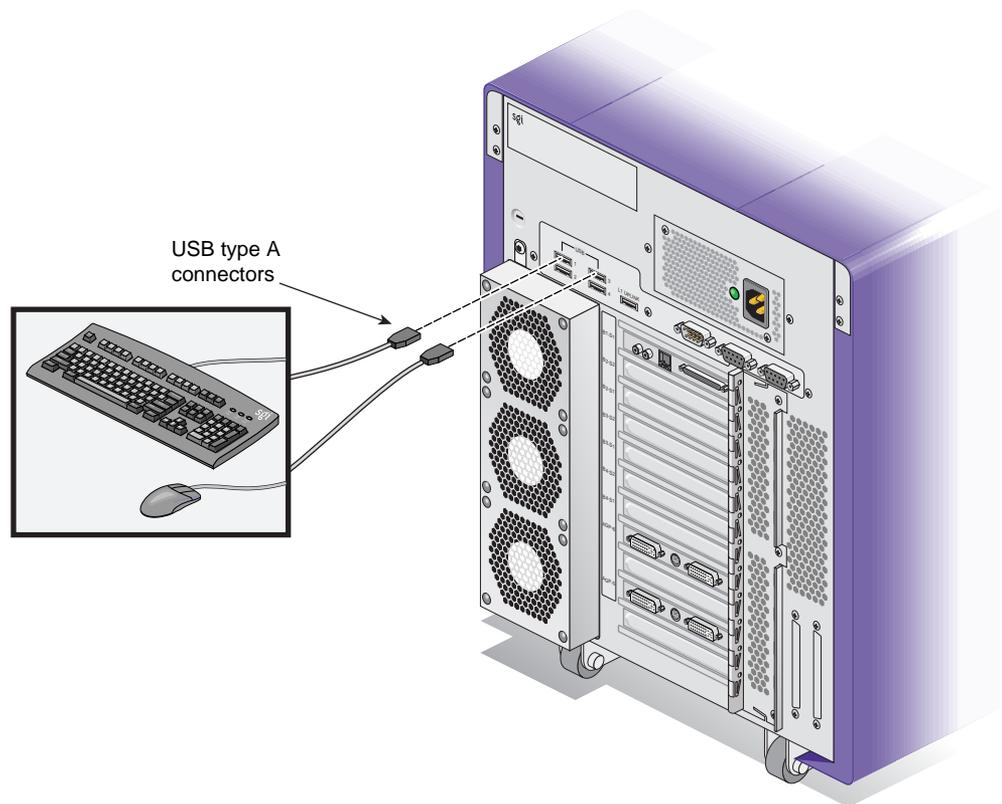

Figure 1-5 Connecting the USB Keyboard and Mouse Cables
1. Connect the keyboard and mouse cables, as shown in Figure 1-5.